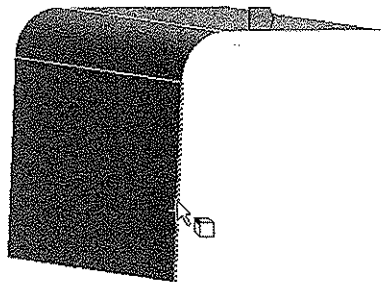

Figure 8-61 Selecting the edge for specifying the direction of force load
11. Select the edge of the model, as shown in Figure 8-61 and then choose the **Apply** button; the Force load of 250 N is applied on the selected edge.